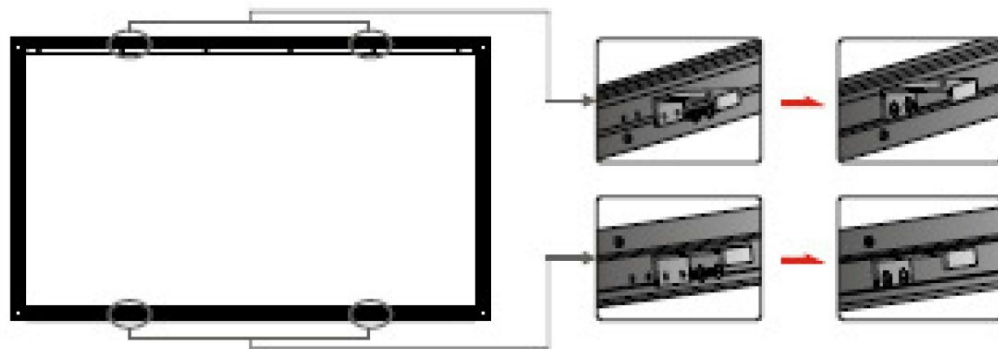

Figure 10
7. Included are four brackets labeled 1-4. Slide these onto the frame, aligning each bracket with the matching number on the frame (Figure 10).